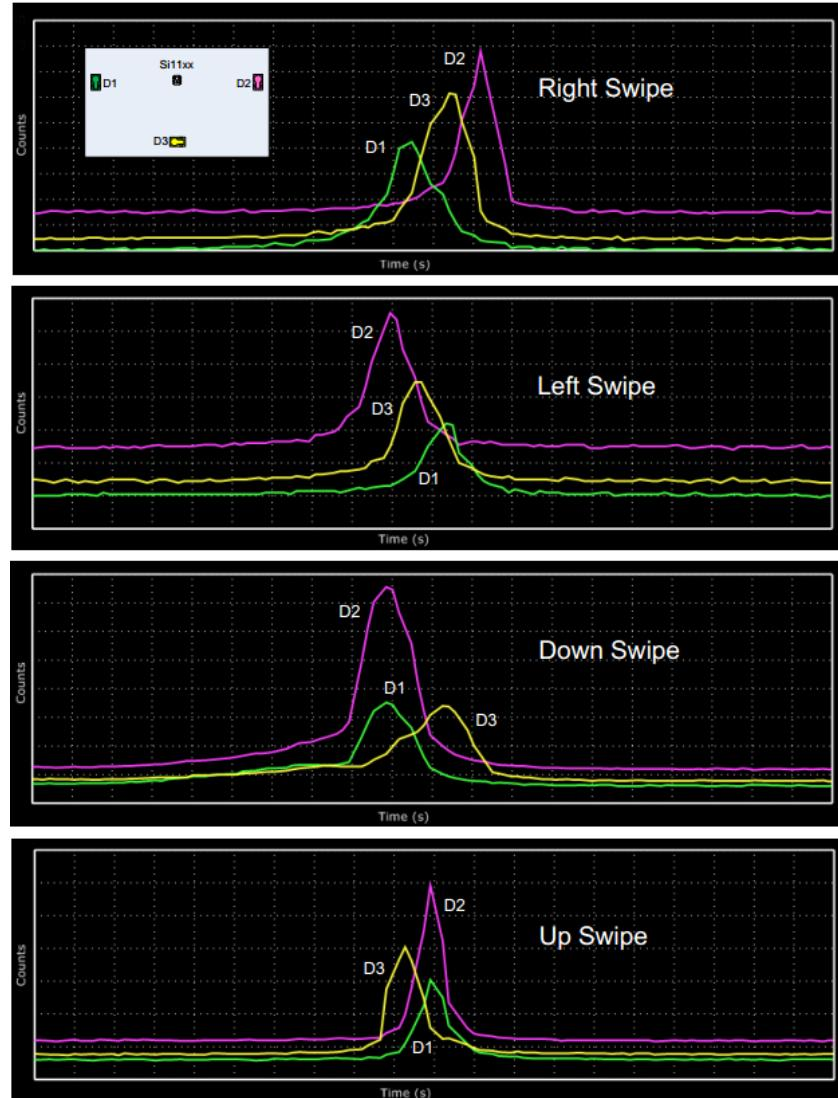

Figure 7-7 Gesture detection data in time domain
User has to switch from Type 1 to Type 2 by press KEY[0] on the DECA board. In Type 2 demo, Si1143 will read and update PS Register automatically then send out interrupt signal to NIOS when done reading and updating data. We can apply this updating characteristic of timing difference and data changes of Proximity Sensing (PS) to achieve gesture detection. As shown in Figure 7-7, indicates the gesture detection data in time domain of different gesture swipe. For more details, please refer to “AN498: Designer’s Guide for the Si114x” or “Si114xRev1_3” or “AN580 Method 2: Phase-based Gesture Sensing.”